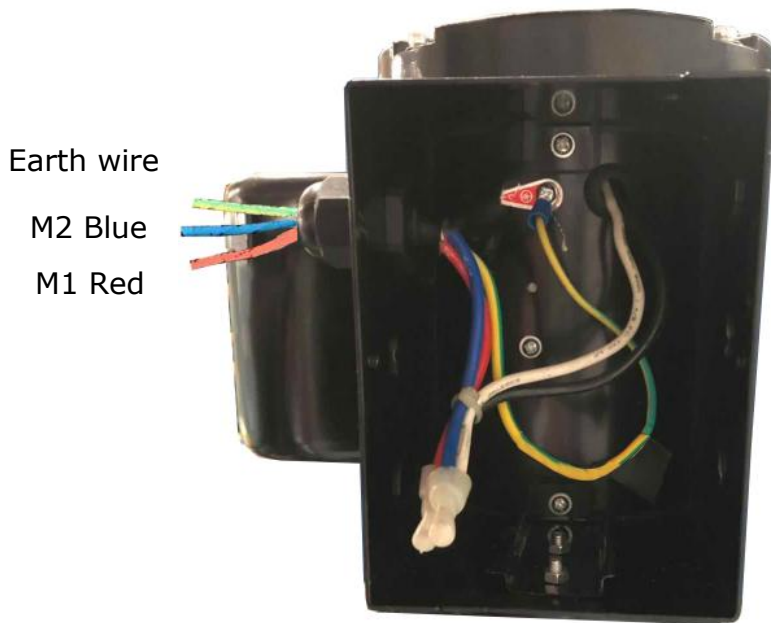

Fig. 48
6.2 220V Wire connection of hydraulic power unit (See Fig. 48).